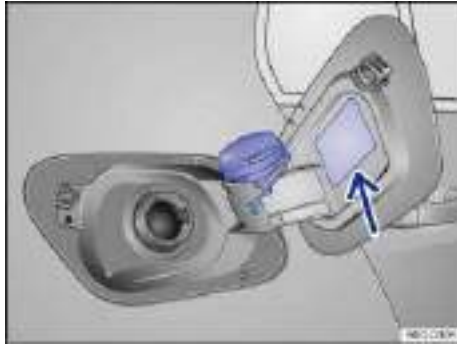

Fig. 161 Right rear side of vehicle: Fuel cap placed on the open fuel filler flap.
- Unscrew the fuel cap counterclockwise and remove. Use the slot on the fuel filler flap hinge ⇒ fig. 161 to hold the cap while refueling.
The correct fuel grade for your vehicle ⇒ *Fuel* is listed on a sticker on the inside of the fuel filler flap ⇒ fig. 161 (arrow).
⇒ fig. 161.